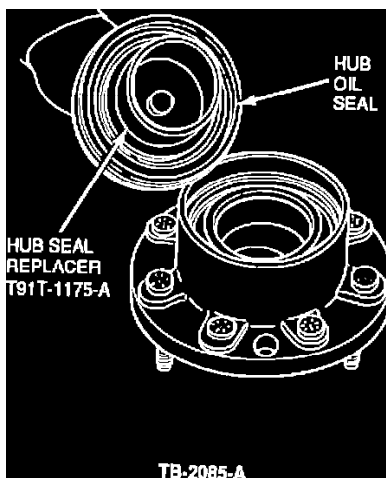

Figure 4
6. Install the hub oil seal on the hub seal installer tool, T91T-1175-A, Figure 4.